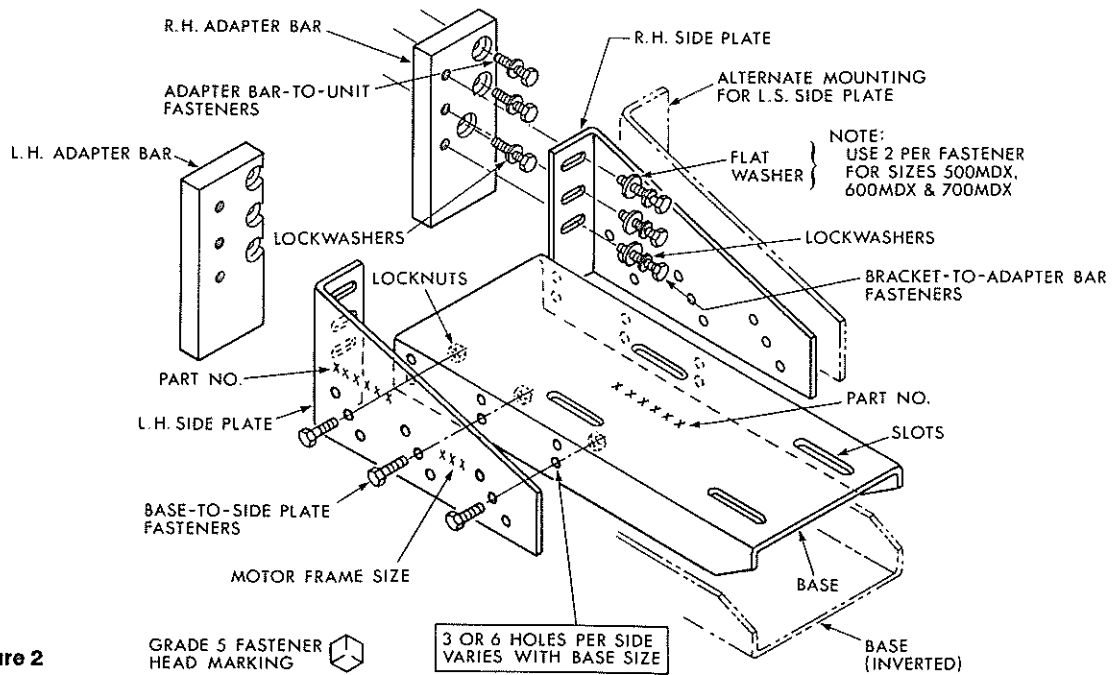

Figure 2
- C. From Table 1, opposite the unit size and motor frame size, determine the motor bracket assembly number and refer to that assembly number in Table 4 for the correct motor bracket assembly view. See Figure 2 for motor bracket part identification and Table 2 for individual bracket assembly part numbers.